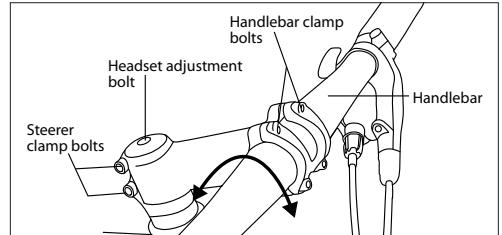

Fig. 24: Handlebar bolts.
1. Decrease the tightness of the handlebar clamp bolts on the stem (Fig. 24).
2. Twist the handlebar by rotating it forward or backward. Make sure it remains in the center of the stem (Fig. 24).
- Direct Connect (Fig. 24)